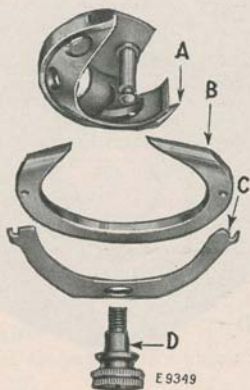

FIG. 29. SHUTTLE AND PARTS REMOVED FROM MACHINE
tion shown in Fig. 29, then replace the other parts in the order illustrated in Fig. 29. Replace and tighten the thumb screw (D). Replace the bobbin and bobbin case and close the slide in the bed of the machine.